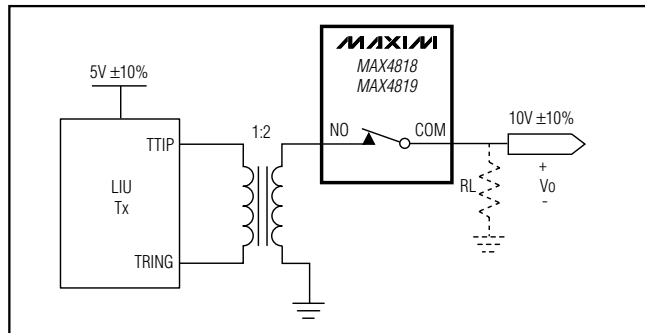

Figure 1. Fault Protection
The fault protection of the MAX4818/MAX4819 allows the devices to handle input signals of more than twice the supply voltage without clamping the signal, latching up, or disturbing other cards in the system. The device detects when the input voltage drops below the negative supply. As soon as a fault condition is detected, the switch is immediately turned off for 128 clock cycles (typically 128 $\mu$ s). At the end of the 128 $\mu$ s timeout, the switch is turned back on for one clock cycle. At the end of the one clock cycle, if the signal is within the operating range, the switch will remain on. Otherwise, the device will turn the switch off again for 128 clock cycles. This will repeat until the signal is within the operating range. In T1/E1 redundancy applications, this can happen when the load resistor (RL) is removed or disconnected for any reason, as shown in Figure 1. Without a load resistor, the output voltage when using a 1:2 transformer can be as high as  $\pm 11V$ .